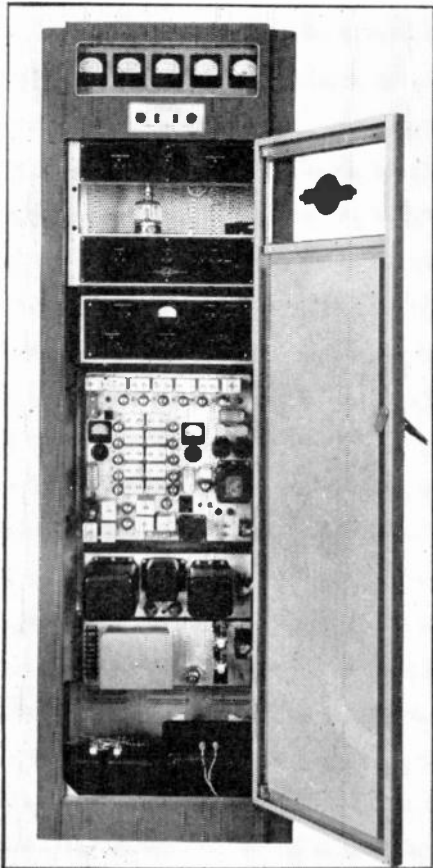

FIG. 1. A 250-WATT FM TRANSMITTER DESIGNED FOR COMMUNITY STATIONS
**250-Watt Transmitter** ★ Figs. 1 and 2 show the extremely compact arrangement of the complete 250-watt equipment, following the general appearance of standard Link communications transmitters.